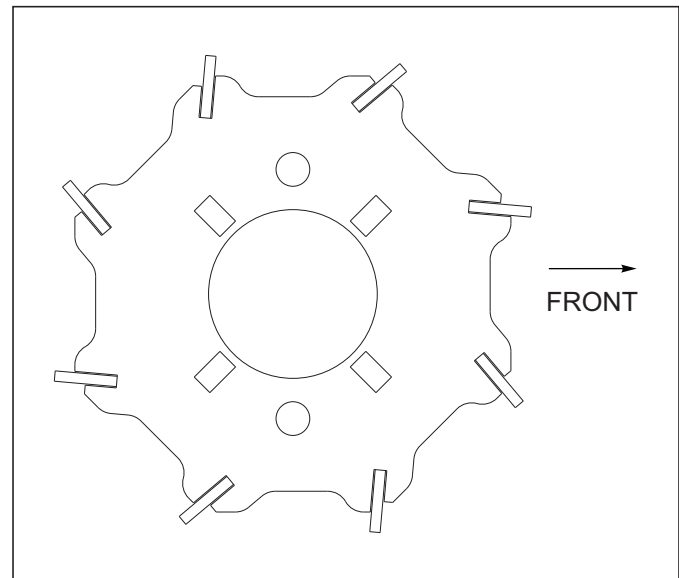

Figure 4-21: Flat Reel
5. The 12" diameter reel consists of nine 3/4" diameter round bars with a chevron shape for smoother rotation. The reels have no inner shaft to reduce plugging in wetter conditions. The reels operate independently of the 3 row spike with two spring loaded arms per reel to maintain consistent down pressure. A 12" diameter spiral wound reel with 1/4 x 1-1/2 angled blades is also available. The blades on flat bar reels are angled for more aggressive action. Install the reels as shown See Figure 4-21.